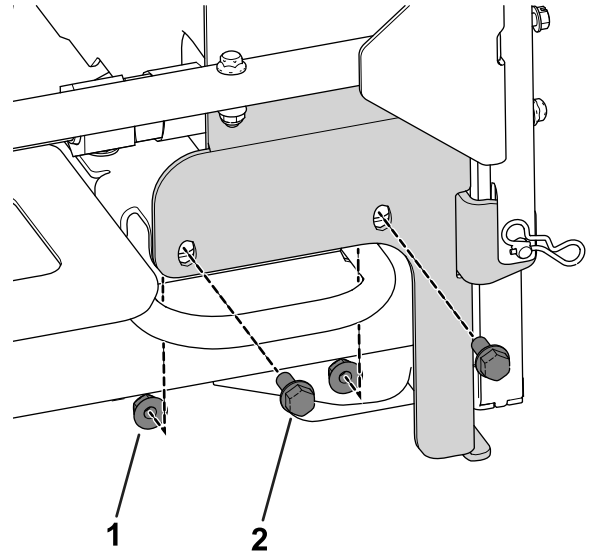

**Figure 5**
B. Use the previously removed bolts to secure the tail light extension brackets to the frame rail (Figure 5).
C. Use 4 bolts (5/16 x 3/4 inch) and 4 nuts (5/16 inch) to secure the tail light mounts to the extension brackets (Figure 5).